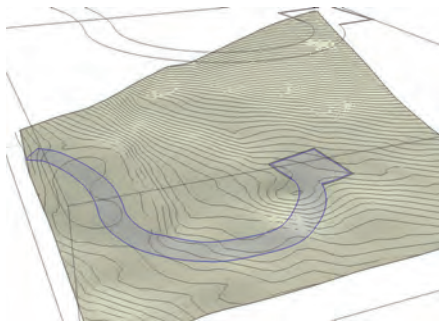

Fig. 15-11: Drape the Road linework onto the terrain.
2. Now that the road linework is draped onto the terrain, the next step is to select the surface and apply a color. If the faces do not subdivide correctly, use Tools on Surface's Line on Surface tool to try to correctly subdivide the face (Fig. 15-11).